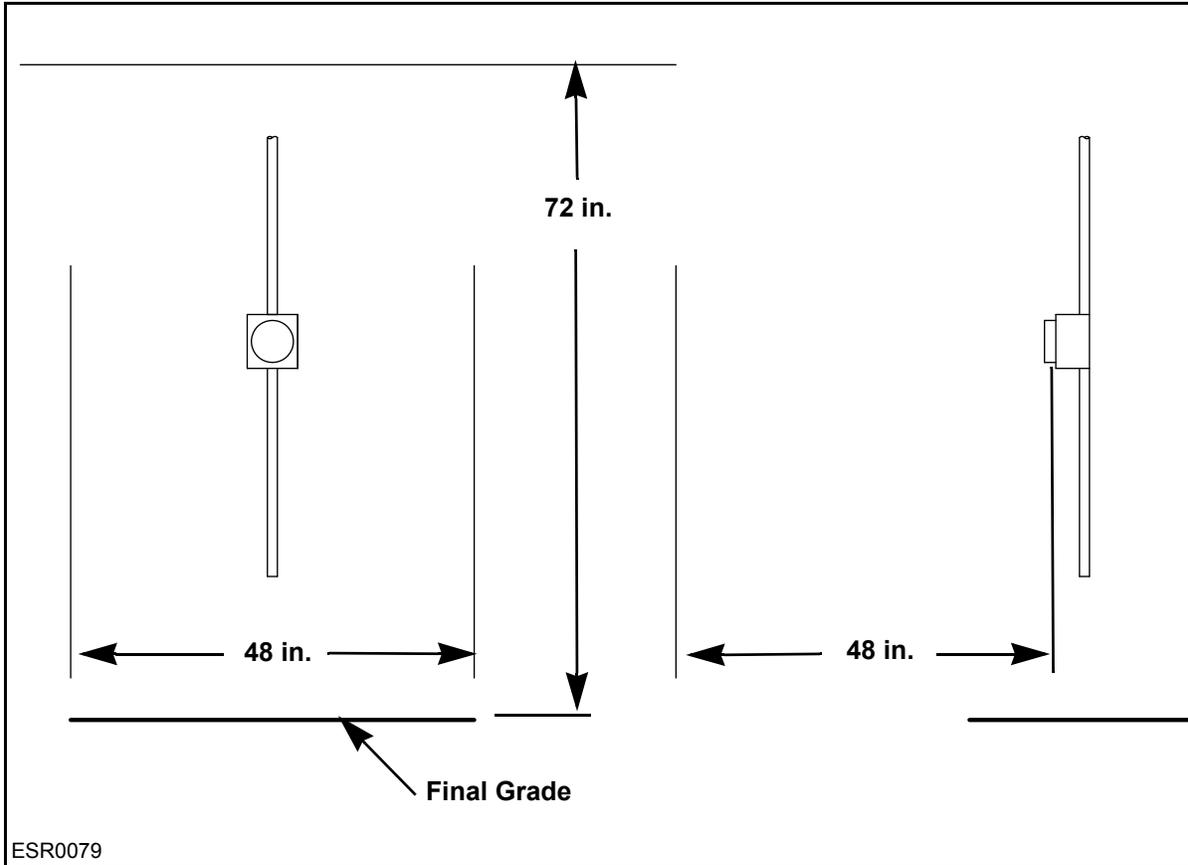

Figure 5-1: Minimum Unobstructed Workspace
- PGE requires the minimum unobstructed workspace in front of a meter to be 78 inches high, 48 inches wide, and 48 inches deep. See **Figure 5-1**.